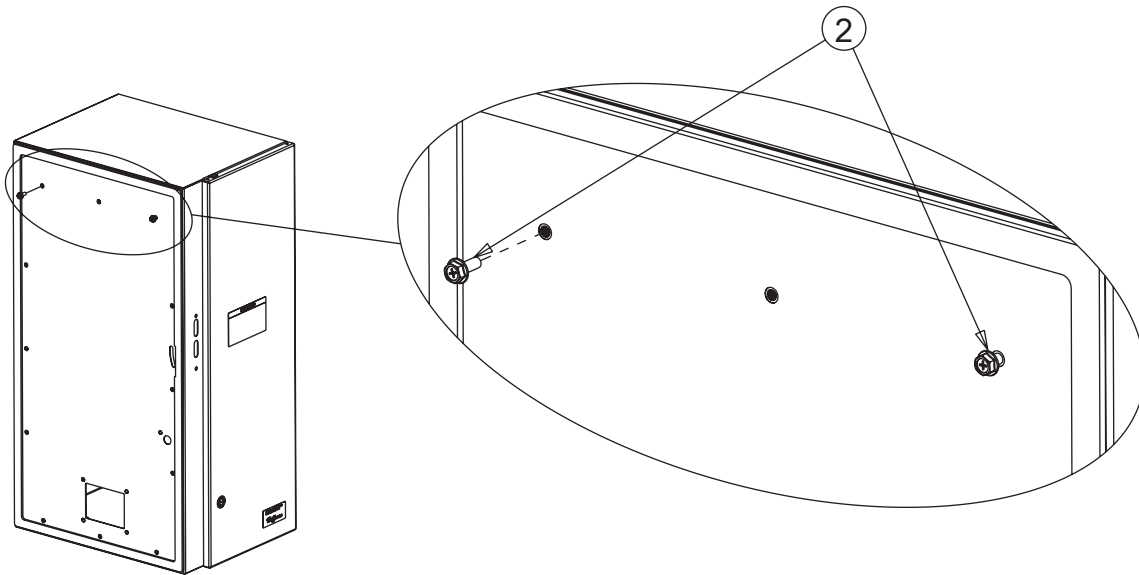

Figure 1A
3. Referring to Figure 1A, thread two M6x16mm bolts (Item 2) from the outside of the Sequestr enclosure halfway into the two outer holes of the upper row. If necessary, remove the silicone plugs from the mounting holes.